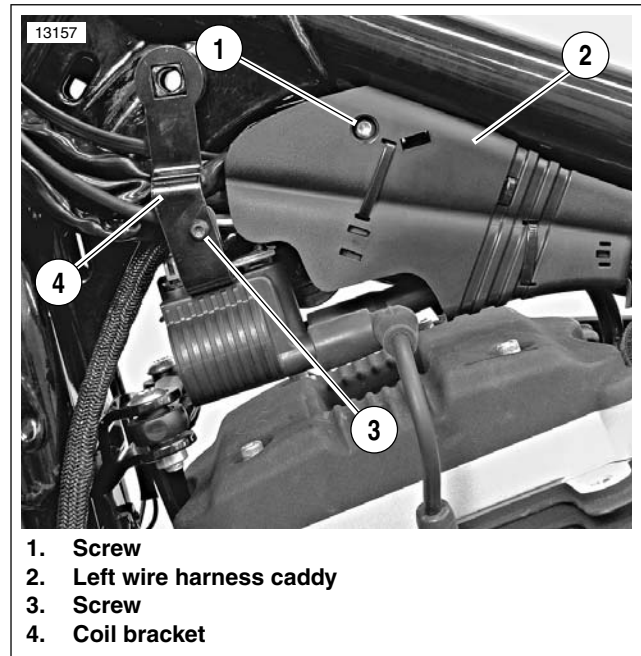

Figure 7-105. Left Wire Harness Caddy
- a. See Figure 7-105. Remove screw (1) securing left wire harness caddy (2) to right wire harness caddy. Carefully disengage left wire harness caddy and pull away from frame backbone.
- b. Remove screw (3) securing coil bracket (4) to ignition switch bracket.